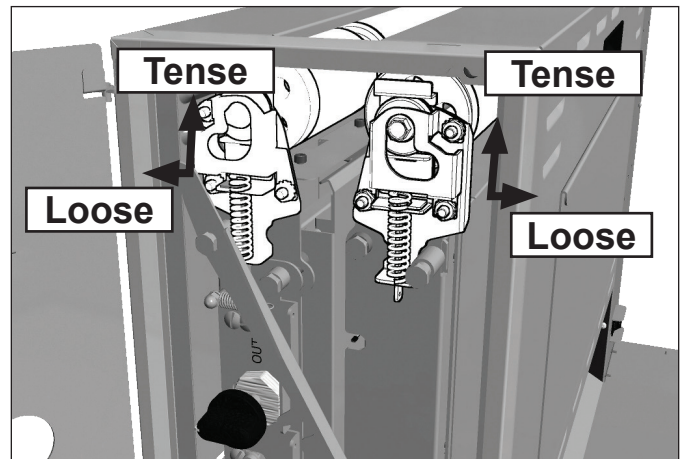

Figure 10. Conveyor Rollers
6. Return the Front and Rear Belt Rollers to full tension by lifting them up so each roller locks into place (Figure 10).